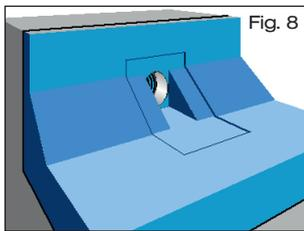

Fig. 8
Work the contours of the discharge pipe with fixed flange into the thermal insulation (Figure 8). The fixed flange of the discharge pipe should, according to the flat roof regulations, be flush-mounted into the substrate.
3.1 Lay thermal insulation panels. Work the contours of the discharge pipe with fixed flange into the thermal insulation (Figure 8). The fixed flange of the discharge pipe should, according to the flat roof regulations, be flush-mounted into the substrate.